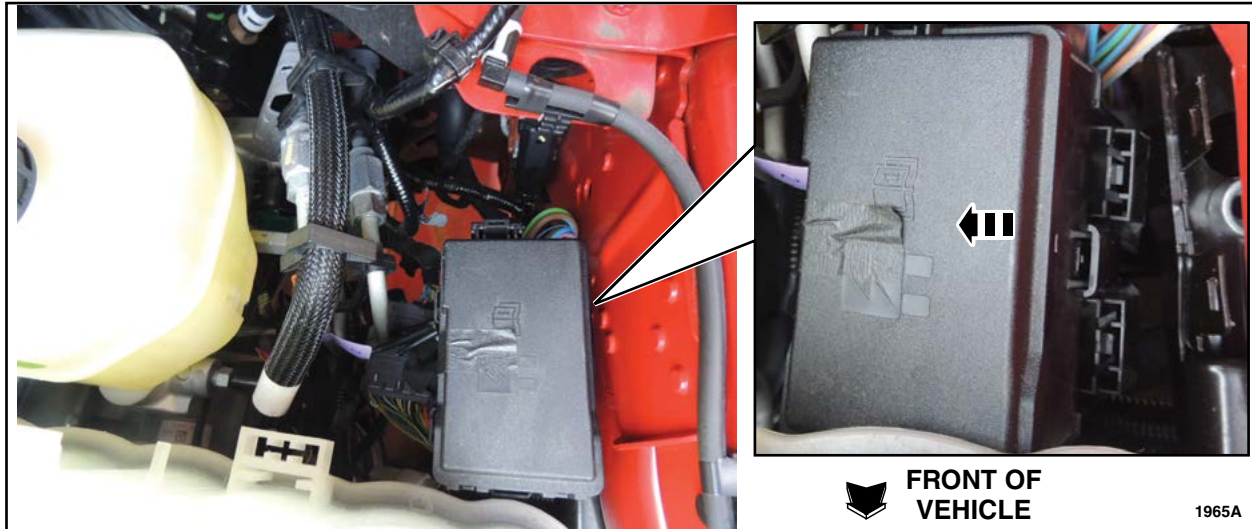

FIGURE 2
1. Release the two retainer clips for the left hand (LH) fuse box and position the fuse box aside. See Figure 2.